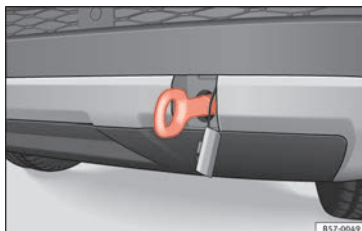

Fig. 101 Rear bumper on right: towline anchorage screwed in.
- Screw the towing eye in the housing by turning it to the maximum **anticlockwise** » Fig. 101 » ①. Use a suitable object that can completely and securely tighten the towing eye in its housing.